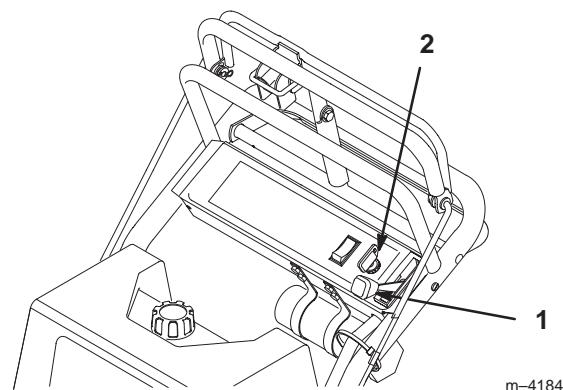

Figure 12
1. Move the throttle lever to “SLOW” (Fig. 12).
2. Turn the ignition key to “OFF” (Fig. 12).